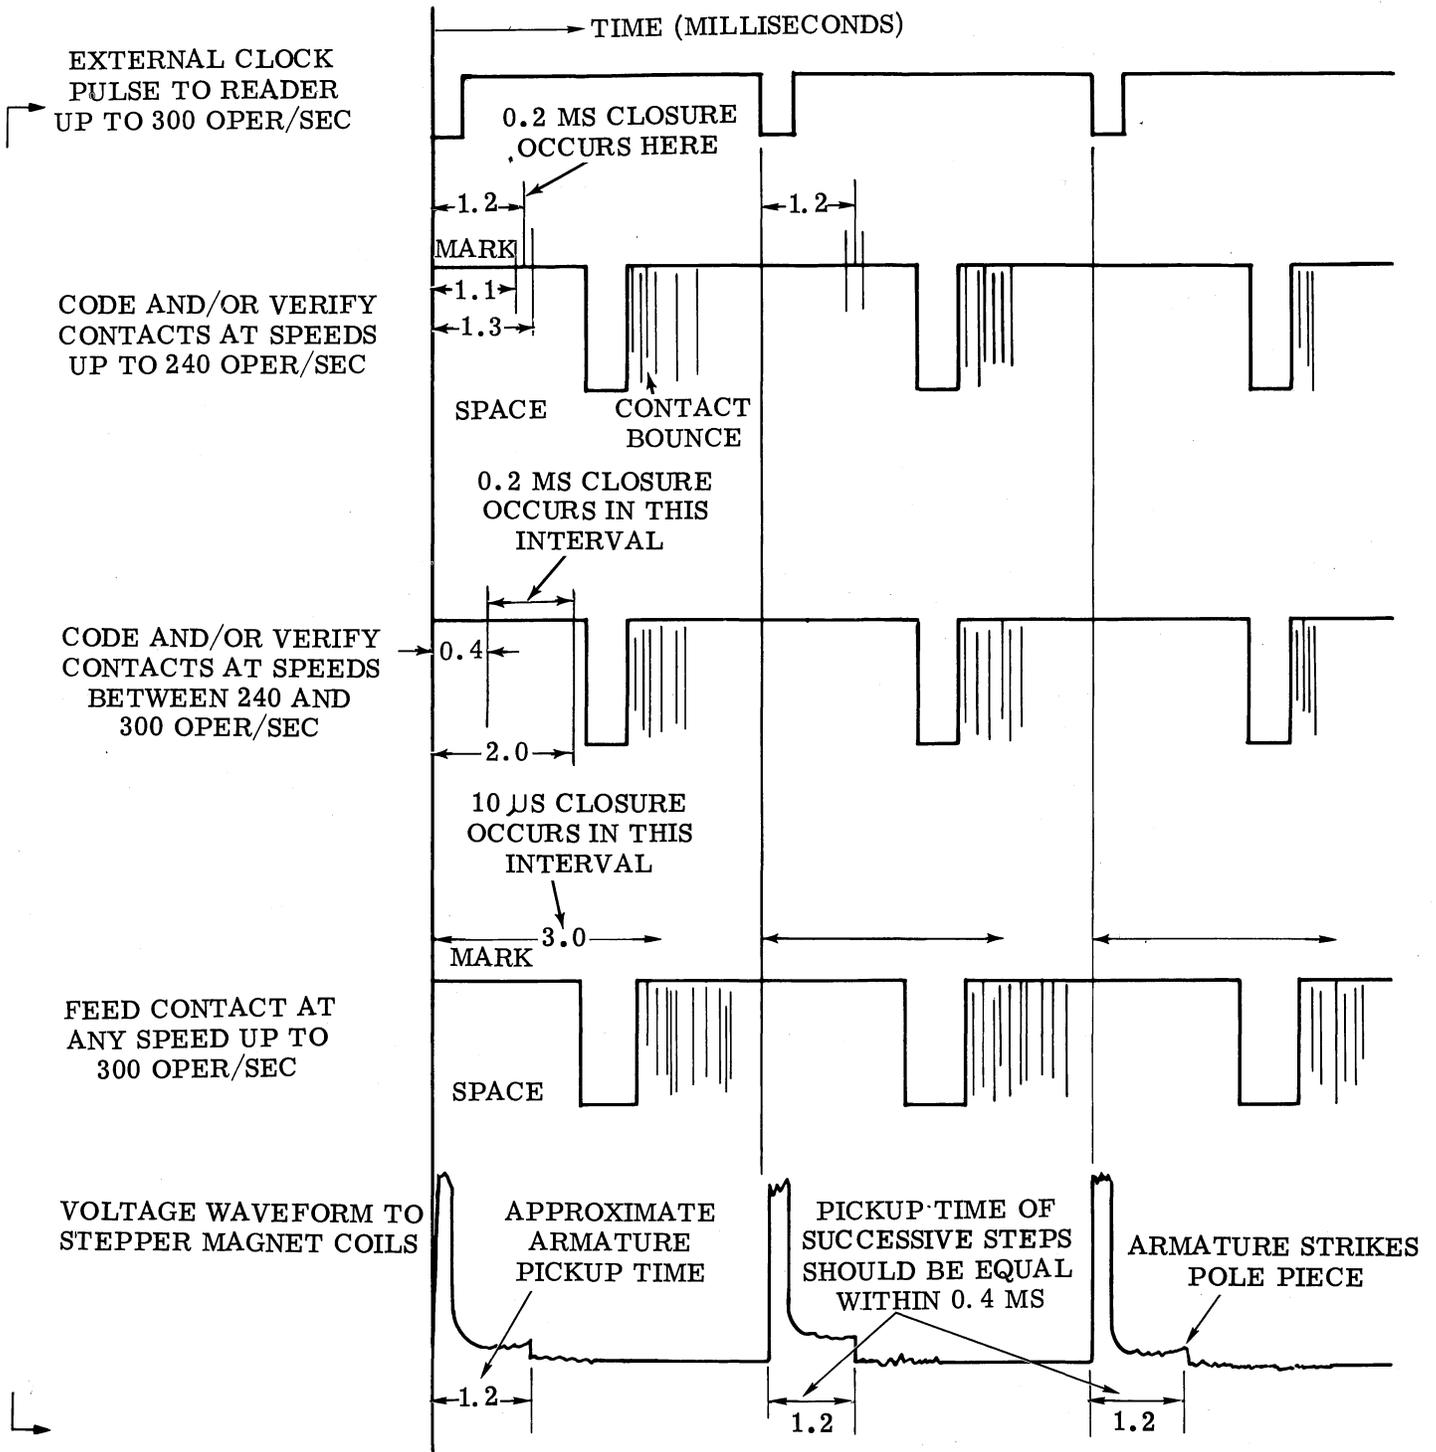

Figure 1 - Code and Verify Contact Strobing
2.05 The armature pickup time of the left and right magnets should be of equal duration within 0.4 milliseconds. The armature signal may be picked up at terminal 6 on TB1 on the TP318800 electronic magnet driver or the front terminal of the left magnet (terminal 2, brown wire). The signal may be viewed on an oscilloscope at speeds up to 300 operations per second, as shown in Figure 1. If this requirement cannot be met, recheck the following adjustments in Section 592-804-700: